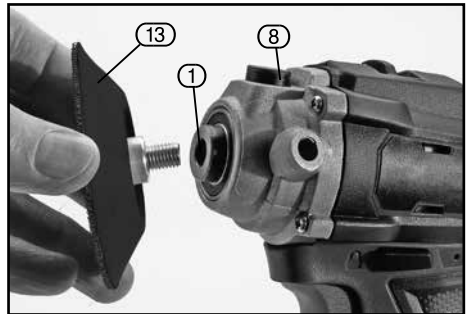

FIG. 3
8.3 FITTING THE BACKING PAD – FIGS. 3 – 4